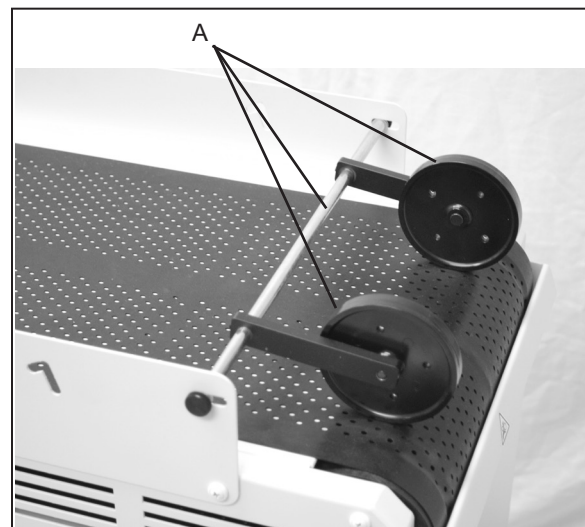
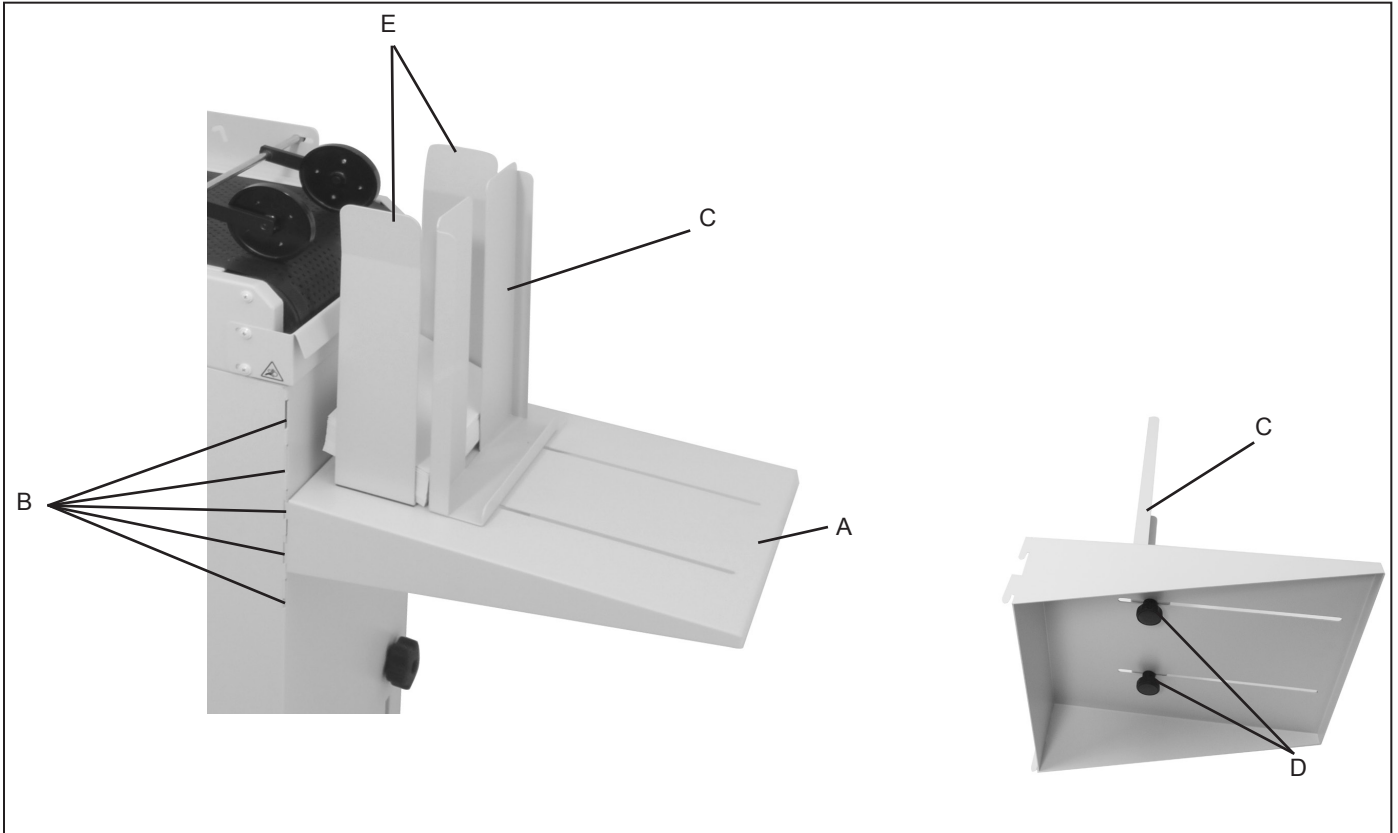
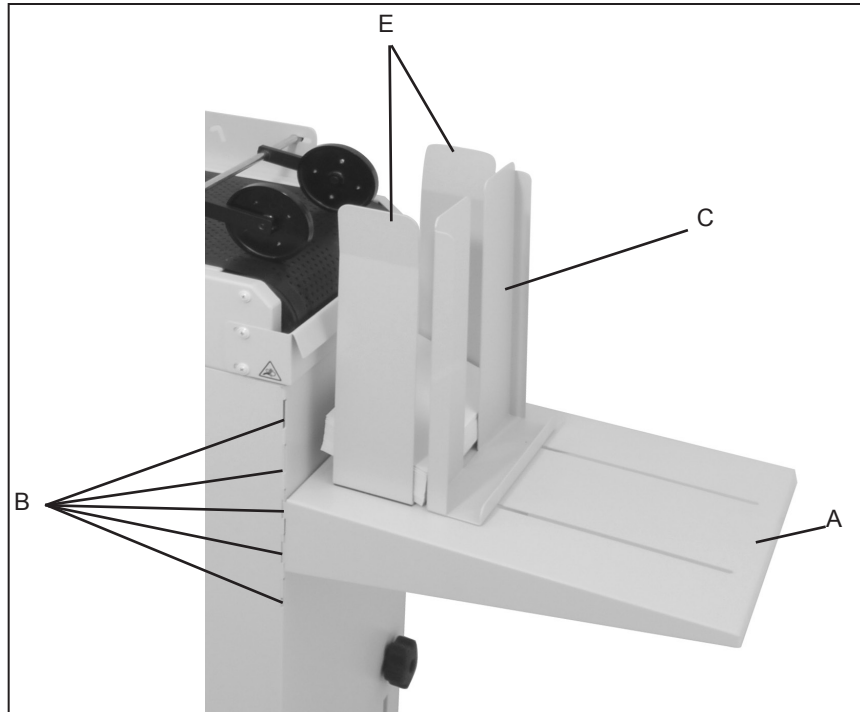

Fig 11
Fig 12
Fig 18
7. Install exit wheel assembly (Fig 11 item A) between rails of conveyor; align with mounting holes and secure in place with 2 black thumbscrews provided. The wheels can be repositioned anywhere along the rod to meet your specific needs.
8. Install adjustable height drop tray (Fig 12 item A) into slots in leg assembly (Fig 11 item B).
9. Install envelope stop plate (Fig 12 item C) onto drop tray using 2 hand wheel nuts provided (Fig 12 item D).
10. Place envelope side guides (Fig 12 item E), magnetically mounted, onto drop tray.
6. To raise or lower drop tray (Fig 18 item A), insert hooks on drop tray into slots (Fig 18 item B) in leg assembly at desired height.
7. To move envelope stop plate position (Fig 18 item C), loosen 2 hand wheel nuts (Fig 12 item D), and reposition stop plate to accommodate the media, then tighten hand wheel nuts.
8. Position envelope side guides (Fig 18 item E), magnetically mounted, at desired location.